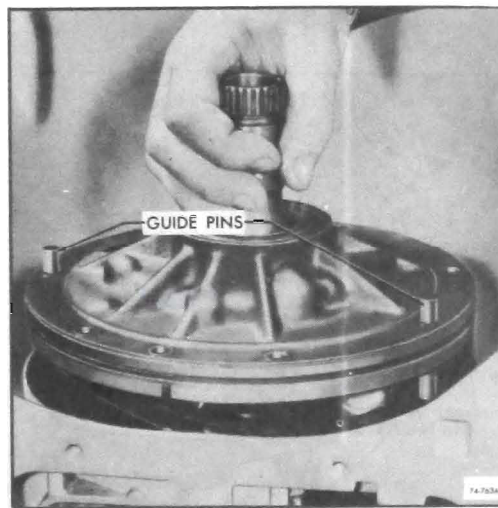

Figure 76-763
20. Install guide pins into transmission case. See Figure 76-763.